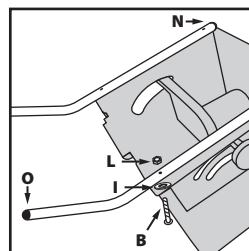

Fig. 3
- Attach the two components to the machines main body using fixings **B, I** and **L (Fig. 3)**.